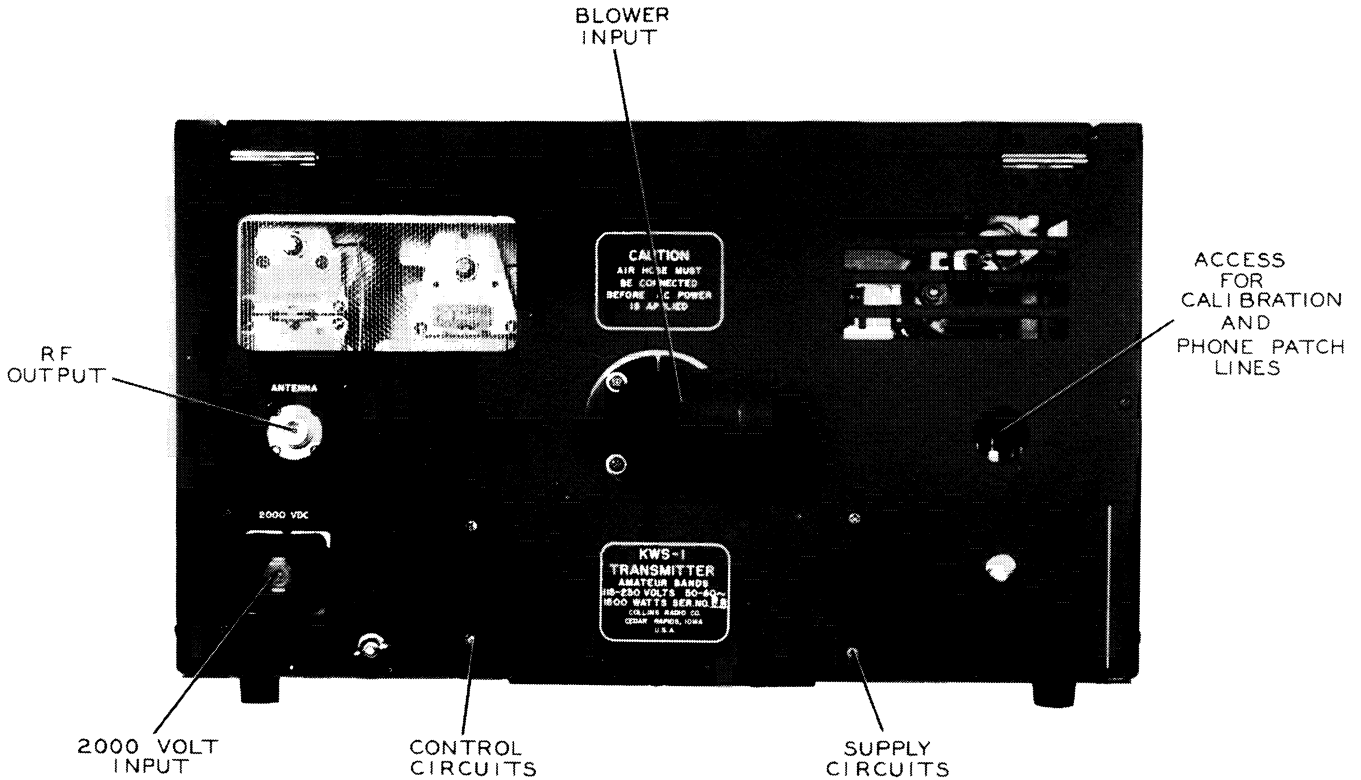

Figure 2-1. Exciter/Power Amplifier Rear Panel
- c. Plug the power supply interconnecting cable plug into the rear of the transmitter. See figure 2-1.
- d. Plug the pendant cable plug into CONTROL CIRCUITS at the rear of the transmitter. See figure 2-1.